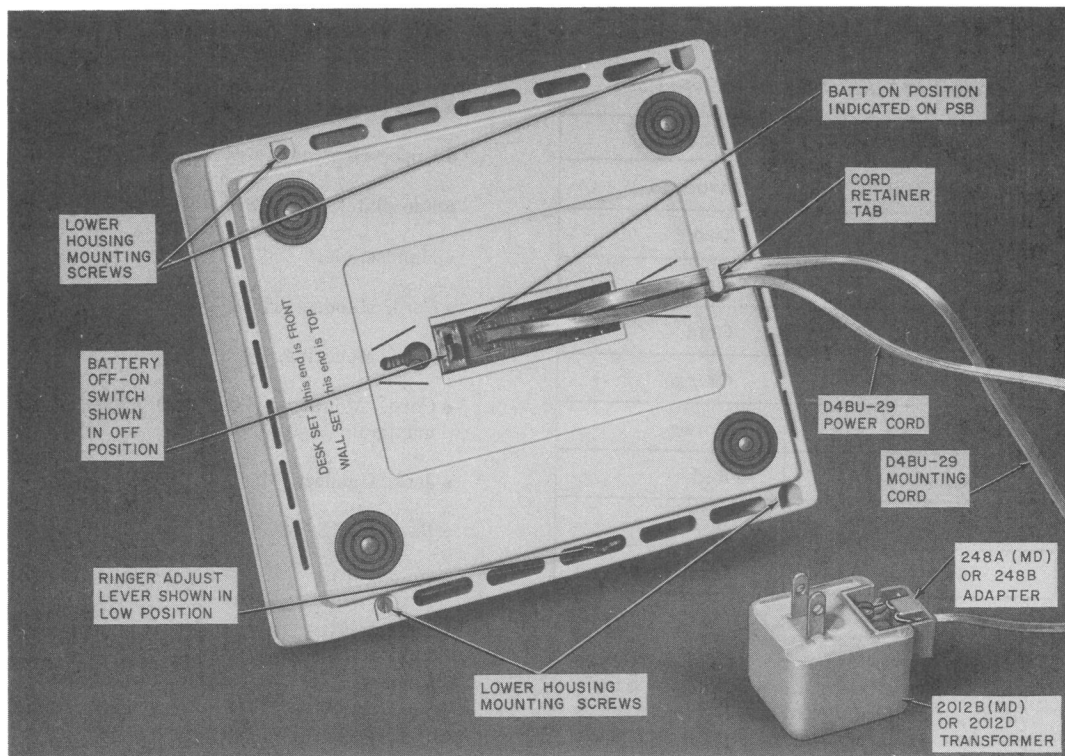

Fig. 2—960A01M Telephone Set, Bottom View
- Battery OFF-ON switch (located on the bottom of the set, Fig. 2), should be in the OFF position when set is not in service.
(1) Adapter, 248A (MD) or 248B (to connect D4BU modular mounting cord to 2012B (MD) or 2012D transformer) Fig. 2.
**3.04** Attach 248A or 248B adapter to 2012B or 2012D transformer (Fig. 2) and plug into 110-117 volt ac outlet not controlled by a switch (continuous ac power is required). Plug one end of the D4BU-29 power cord (maximum 14 feet) into the power jack on the bottom of the set (Fig. 15C) and the other end into the 248A or 248B adapter.
**3.06** The set is shipped from the factory with the battery switch in the OFF position. After all wiring changes and modifications have been completed, tilt the set up and move the battery switch arm (now visible in the bottom view of the set, Fig. 2) to the ON position.
**Note:** The switch ON position is indicated on the bottom of the printed wiring board (Fig. 2), and if switch is not placed in ON position, the set will not record or automatically dial.
**Note:** Dress all cords under retainer tab at bottom rear of housing, Fig. 2.